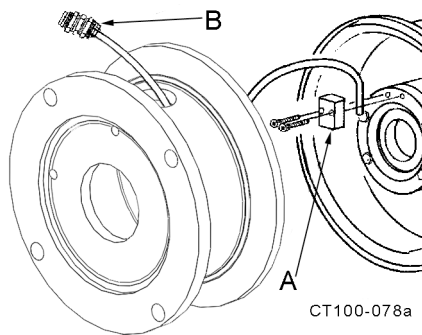

Figure 32 - Installing Water Cascade System
10. If your system has a water cascade, thread the water cascade hose through the adapter and install the cascade block on the backplate (Figure 32, items A and B).